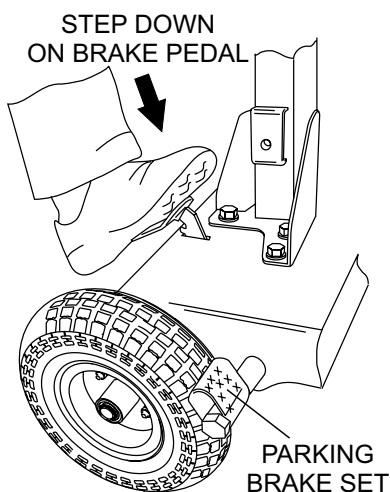

Figure 5. Parking Brake (Set Position)
2. To apply the parking brake (Figure 5), step on the brake pedal and pull back on the T-handle. This will lock the rear wheels. For additional safety, use chock blocks to prevent rolling.